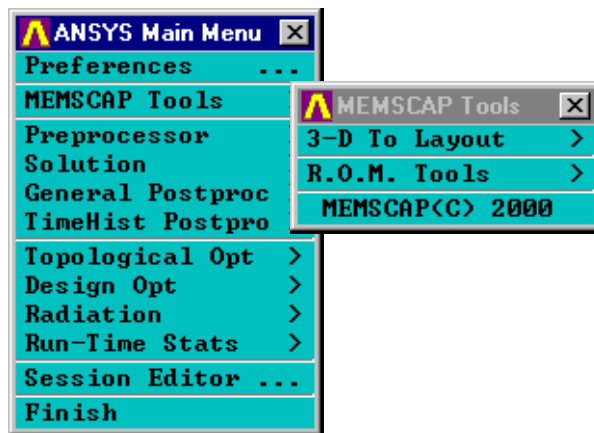

Figure 44: R.O.M. Tools menu
- ☒ Select **MEMSCAP tools > R.O.M Tools** (Figure 44) in the **ANSYS Main** menu.